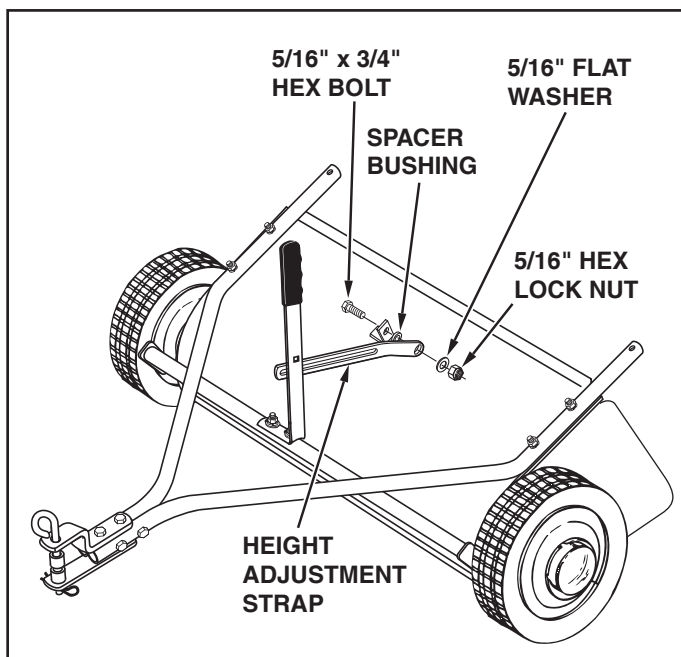

FIGURE 7
- Insert a 5/16" x 3/4" hex bolt through the angle bracket. Assemble onto the bolt (in sequence) the spacer bushing, the height adjustment strap, a 5/16" flat washer and a 5/16" hex lock nut. **Tighten.** See figure 7.
- Hold the (LH) upper hopper tube so that the hole for the brace rod faces down. Insert the (LH) upper hopper tube down through the stitched flap on the left side of the hopper bag. Repeat for the right hand upper hopper tube. See figure 7.